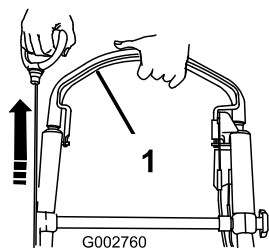

Figure 23
2. Hold the blade-control bar against the handle and pull the recoil starter (Figure 23).